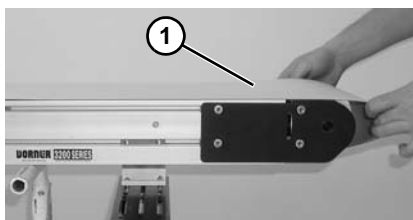

Figure 47
5. Remove belt (**Figure 47, item 1**) from conveyor, one stand at a time. Start on one end of conveyor and work down to opposite end.